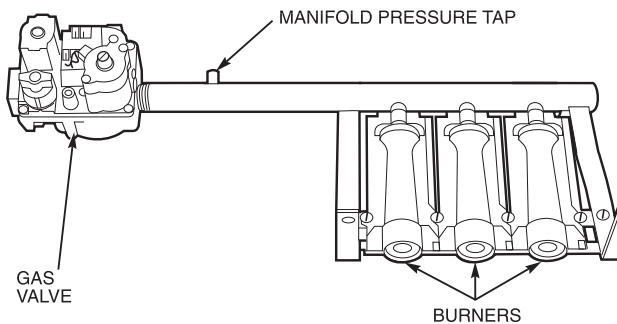

Fig. 13 - Burner Tray Details
8. Slide the burner tray out of the unit (Fig. 13).